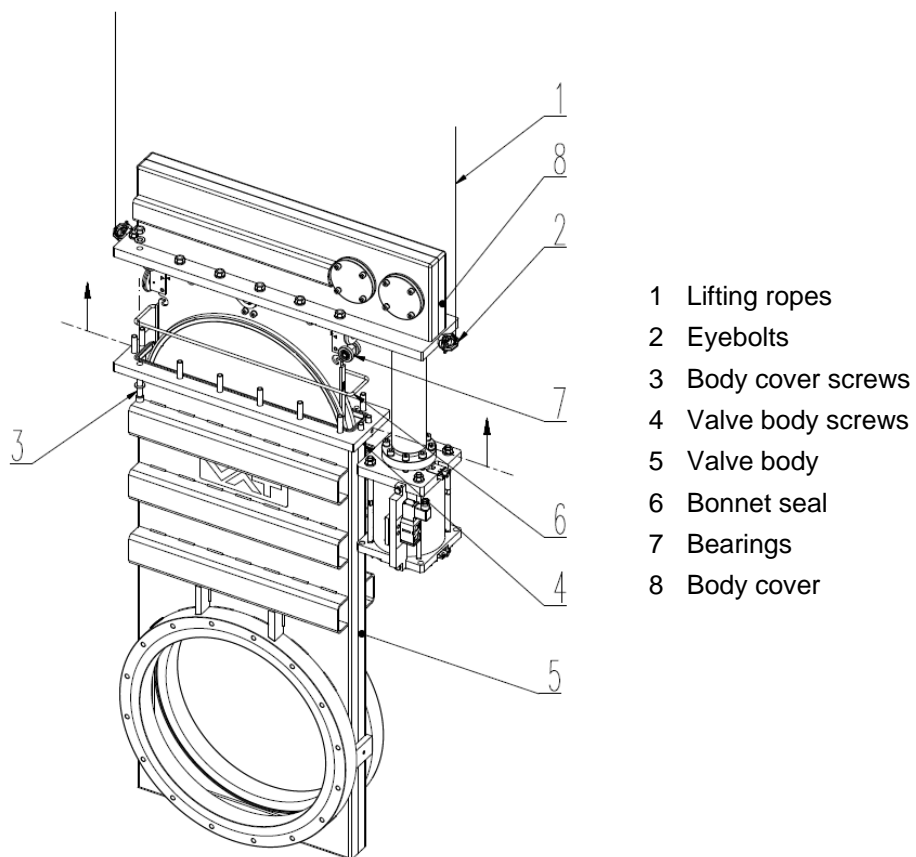

Figure 6-1
5. Remove the screws (3, 4) from the body cover (8) in crosswise order; see «Figure 6-1» on page 17.